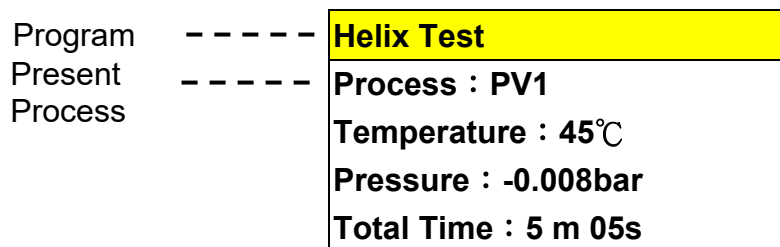

Figure 105
- F. Press  button to star the Helix Test Program, as shown in Figure 105.